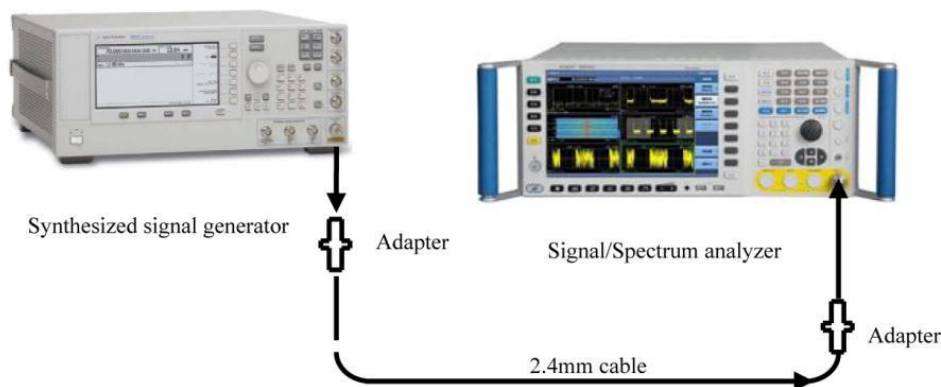

Fig. 8.18 Schematic diagram of phase noise test
- 1) Connect the test instrument as shown in Fig. 8.18 and connect the signal output interface of the synthesized signal generator to the signal input interface of the 4051 analyzer.